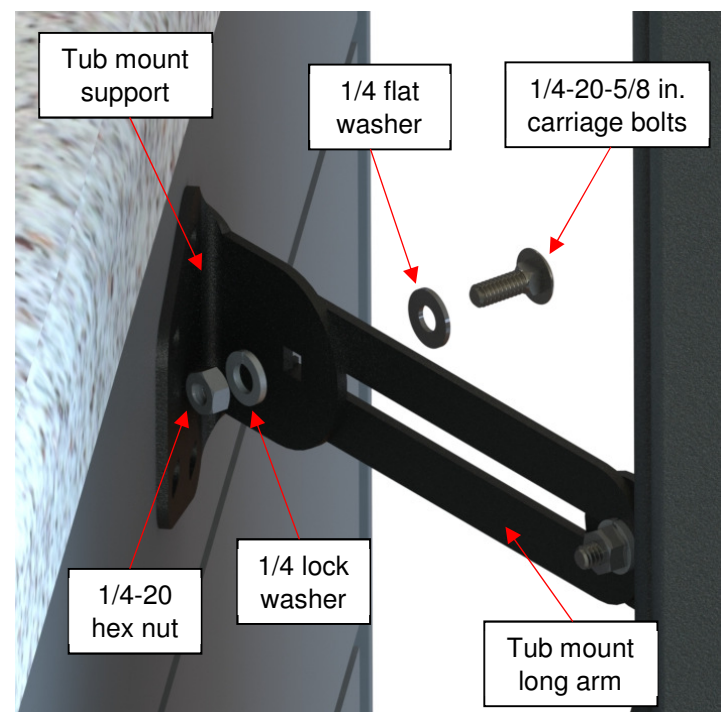

Figure 94
- 6) Screw the tub mount supports to the tub using four appropriate size screws per tub mount support. (Figure 94)